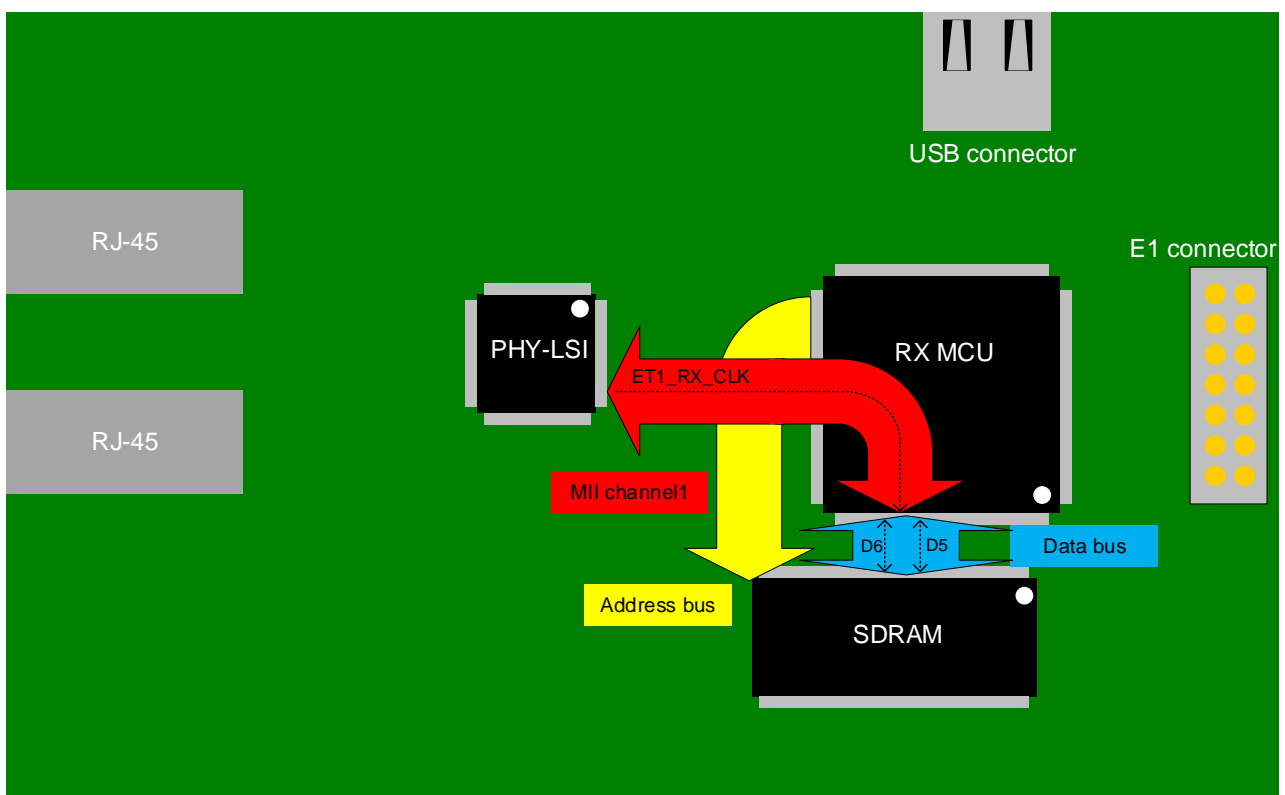

Figure 1 Component Layout
The component layout of the Ethernet communication board is shown in Figure 1, and precautions during layout are described below.
- Lay out the components such that the SDRAM data bus and the media independent interface (MII) or reduced media independent interface (RMII) signals (particularly ET1_RX_CLK on MII channel 1) are as short as possible and do not run alongside one another. In particular, be sure that the signal patterns of ET1_RX_CLK and D5/D6 (of the SDRAM data bus) do not run parallel to one another. (See Figure 1.)